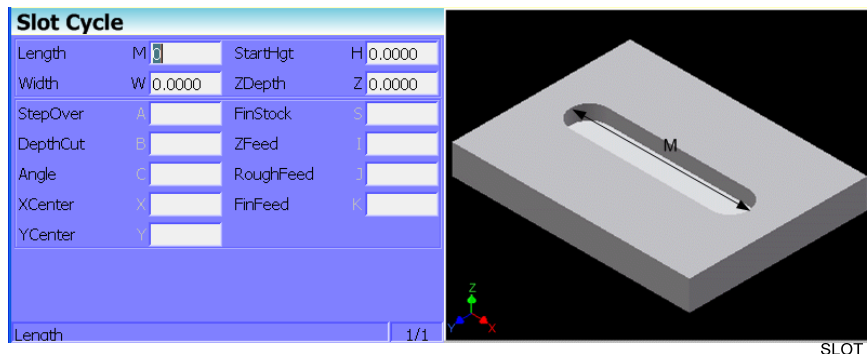

Figure 4-23, Slot Graphic Menu
9. Highlight **Slot** and press **ENTER** to display the Slot Cycle Graphic Menu. Refer to **Figure 4-23, Slot Graphic Menu**.